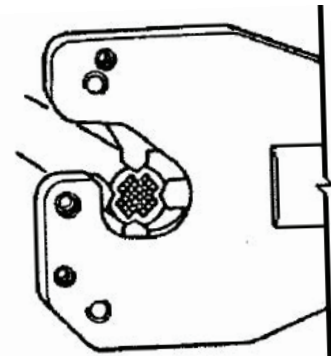

Figure 2
3. Insert the cable into the connector then press and hold the trigger until the compression is completed (Figure 2). The ram will advance and once the cycle is complete, the tool will automatically shut off. If the cycle was not completed, the LED work lights will flash rapidly alerting the user the cycle was not completed.